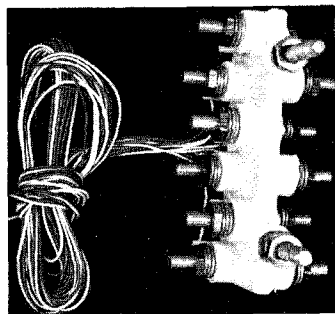

Fig. 4—QBN-1B Terminal Block
4.01 The QTC type terminals are furnished with one QBN-1B (6 Pair NON-PROTECTED TYPE) Terminal Block. (Fig. 4). Each binding post has a single, replaceable, 24-gauge wire lead assembly attached. The top (tip) posts have white leads and the bottom (ring) posts have blue leads.